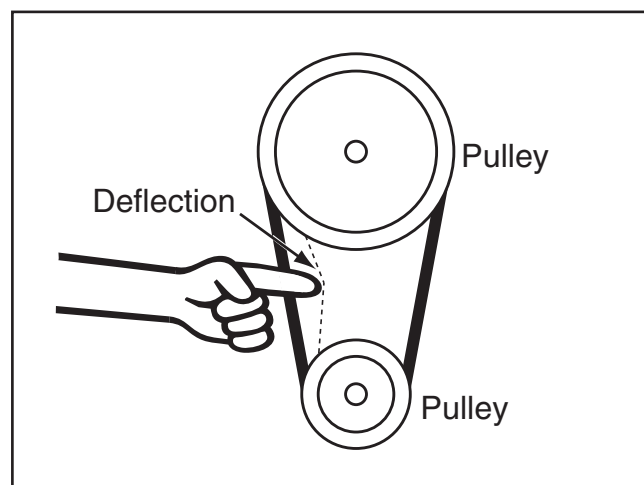

Figure 46. Belt deflection.
2. Push the center of each V-belt as illustrated in **Figure 46**, using moderate force. When tensioned correctly, the deflection should be about $\frac{1}{4}$ ".